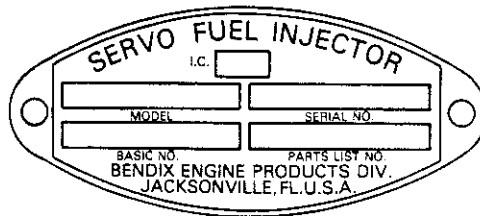
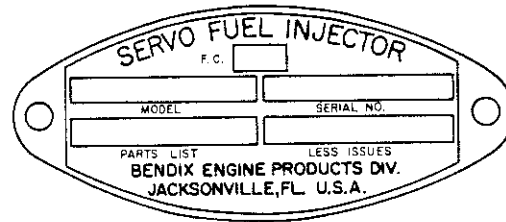

Figure 1. Jacksonville Production Plate PN 2542233 (Non-Procurable) LA-8390
Figure 4. Service Identification Plate PN 2542391
1. Each fuel injector assembly shipped from Bendix as original equipment carries an externally secured plate, as shown in Figure 1, on which is stamped the model designation, serial number, basic part number and installation parts list number.
2. At first normal overhaul of the fuel injector, remove the identification plate if it is the same as shown in Figures 1 thru 3 and install service identification plate PN 2542391 (Figure 4). This new service plate will carry the model designation, serial number, parts list number less issues and facility code identification.
- F. In Figure 4, the block marked "F.C." (Facility Code) or "LOA" (Last Overhaul Activity) is to be stamped with the 3 or 4 letter facility code used on safety wire seals or the facility FAA Repair Station Number.